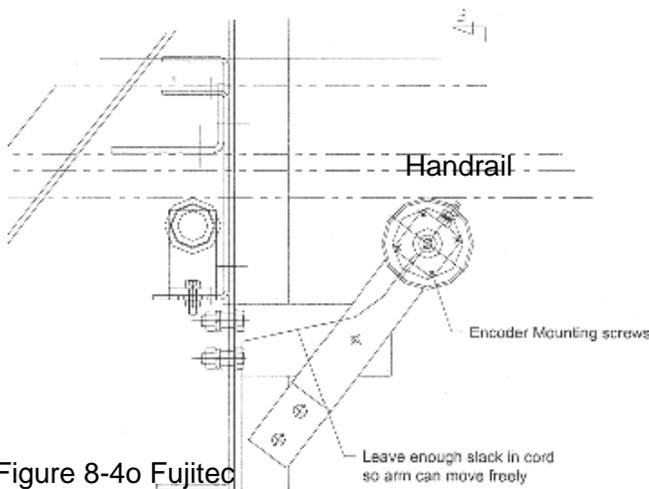
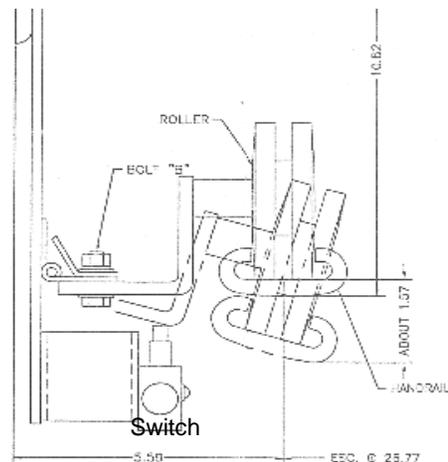

Figure 8-4o Fujitec PS-S 1200 Handrail Speed Device
Figure 8-4p Fujitec PS-ST 1200 Broken Handrail Device
Fujitec Broken Handrail Device (figure 8-4o for Model PS-S 1200 & figure 8-4p for Model PS-ST 1200).
- PS-S 1200 (figure 8-4o). Locate the speed sensor at the upper landing near the newel. Dismount the digital speed sensor away from the pulser disk that turns with the roller underneath the handrail. Verify if it works, test run the unit. The unit should not run. The handrail speed device at speed zero is interpreted as a broken handrail. The switch has upper and lower set points to stop the escalator at $\pm 5\%$ of the nominal handrail speed.
- PS-ST 1200 figure 8-4p. Clean, inspect and test operate the **broken handrail device** located at the lower incline 110 inch from the lower working point (WP).
Loosen the roller assembly mounting bolt (figure 8-4p) to actuate the switch. The unit should not run. Manually reset the controller Reset switch.